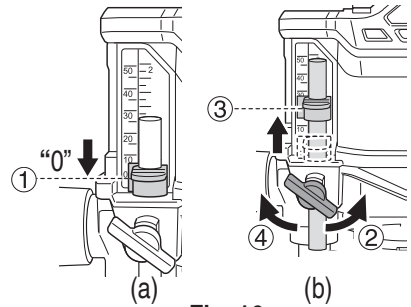

Fig. 16
- (4) Tighten wing bolt. Align the depth indicator with the "0" graduation of scale. (Fig. 16 (a))
(5) Loosen wing bolt, and raise until indicator aligns with the graduation representing the desired cutting depth. Tighten wing bolt. (Fig. 16 (b))